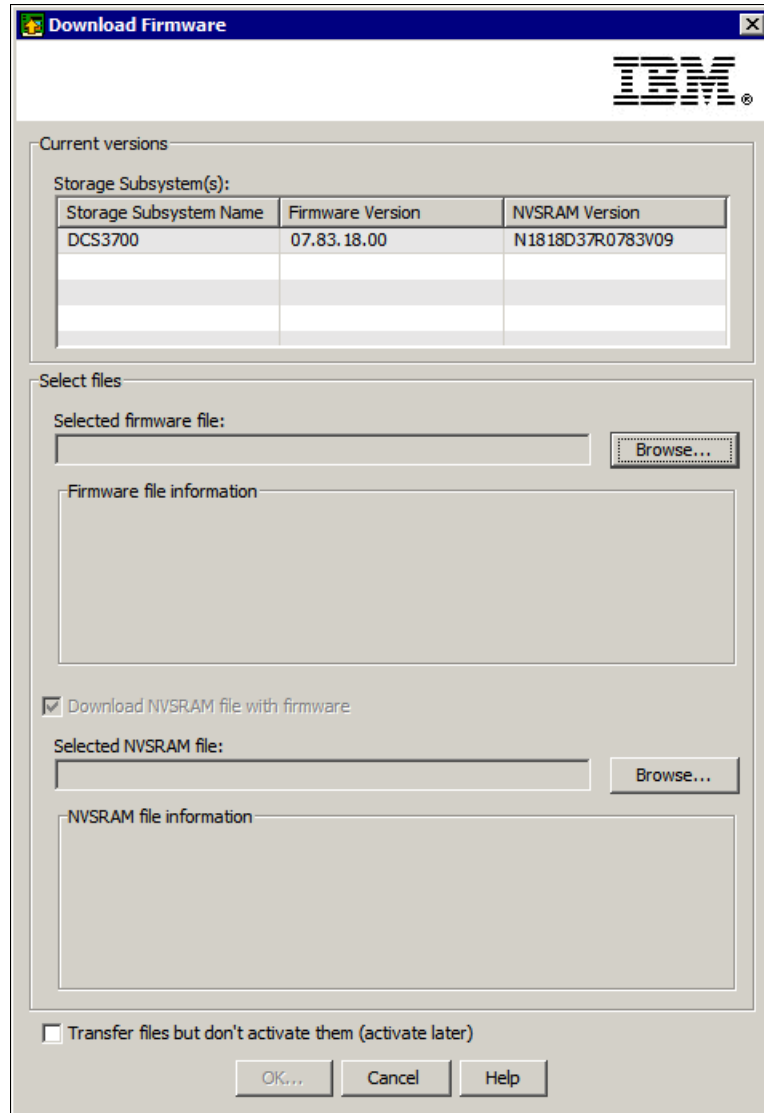

Figure 14-11 Download Firmware window
4. Click **Firmware** to open the Download Firmware window, which is shown in Figure 14-11.